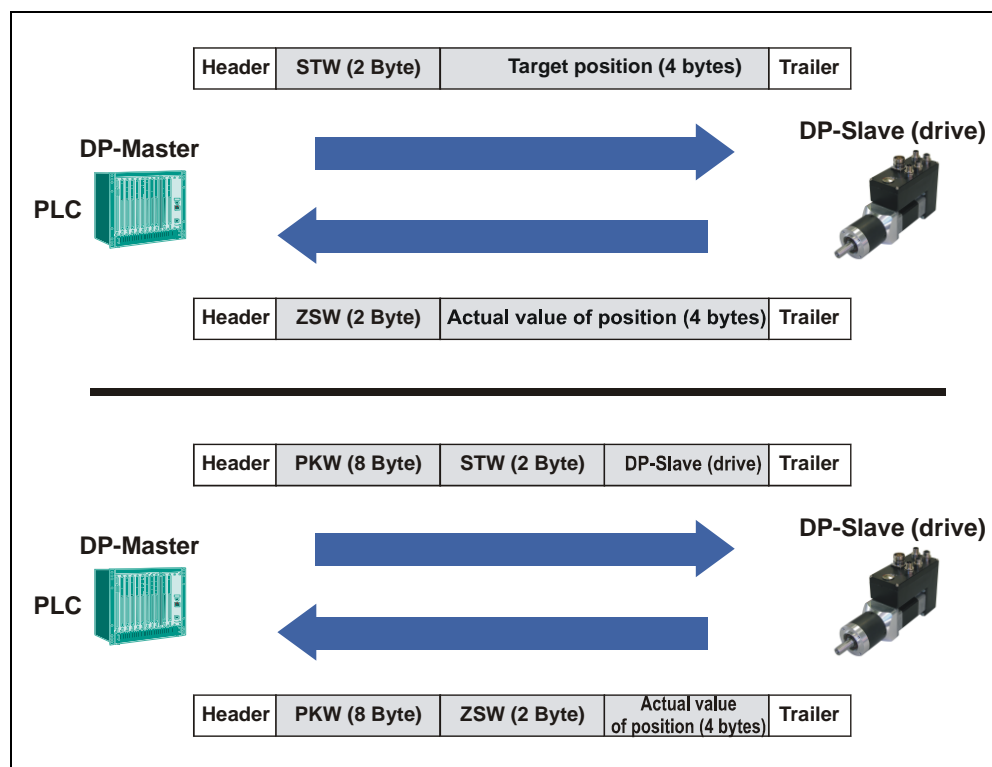

Figure 2: Cyclic communication with PKW channel (bottom) and without (top)
Figure 2 shows the telegrams, which are exchanged between DPM1 and slave as part of the cyclic data traffic. At the same time, the control word and target position are transmitted from the DPM1 to the slave as process data, and, in the opposite direction, the status word and the position value.
(cf. Figure 2, Page 87)
2. PKW channel, PZD: as in 1. (cf. Figure 2, Page 87)